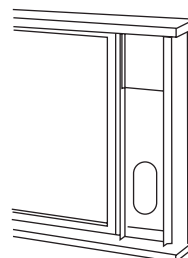

FIG.14
- 3 Cut the foam seal (Adhesive type) to the proper length and attach it on the top of the window. Show as in Fig. 14.